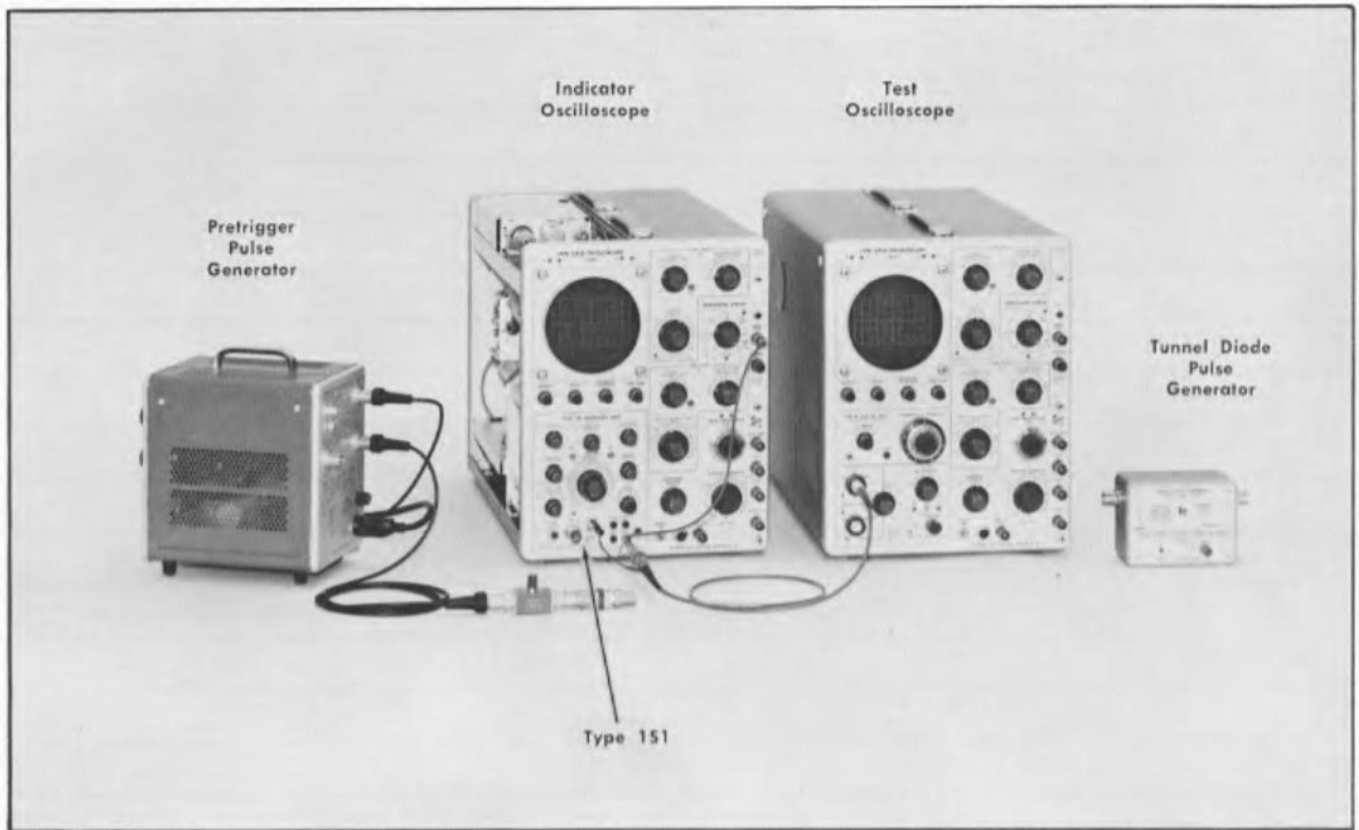

Fig. 5-29. Initial test equipment setup for steps 18 through 20.
- a. Test equipment setup is shown in Fig. 5-29.